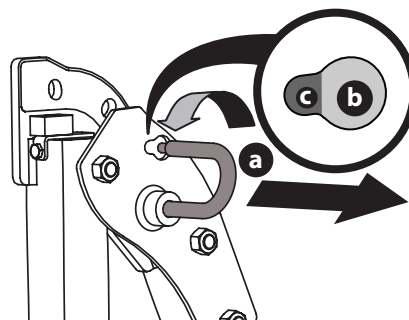

Fig. 4
1. Pull slightly up on the upper ROPS to relieve any tension on the locking pin (a) and rotate the locking pin (a) from the LOCKED (b) position into the ADJUSTMENT (c) position (Fig. 4). Repeat the procedure for the locking pin on the opposite side.